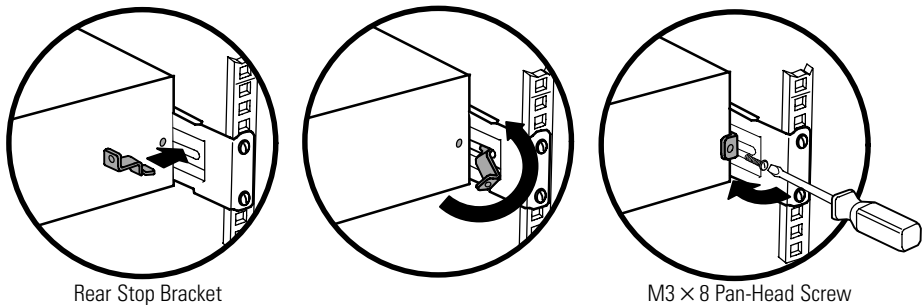

Figure 8. Securing the Back of the Cabinet (Optional)
13. **Optional.** Insert a rear stop bracket through the inside of each rail behind the UPS. Rotate each bracket and slide the bracket until it fits tightly against the UPS's rear panel. Secure each bracket to the UPS with one M3×8 pan-head screw. See Figure 8.